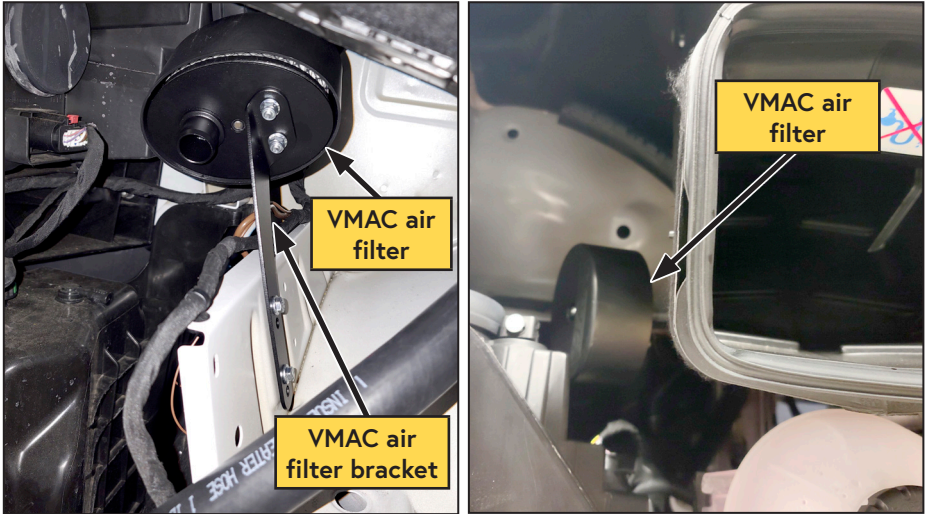

Figure 17 — Install compressor air filter bracket
- Using the supplied M6 × 18 mm fasteners with lock nuts in the 2 existing holes located toward the engine below the cab air filter box, install the compressor air filter bracket behind the radiator overflow bottle (Figure 17).
- Route the compressor air intake hose from the bottom of the VMAC air filter assembly, down between the fender and the frame, to the compressor (Figure 17).